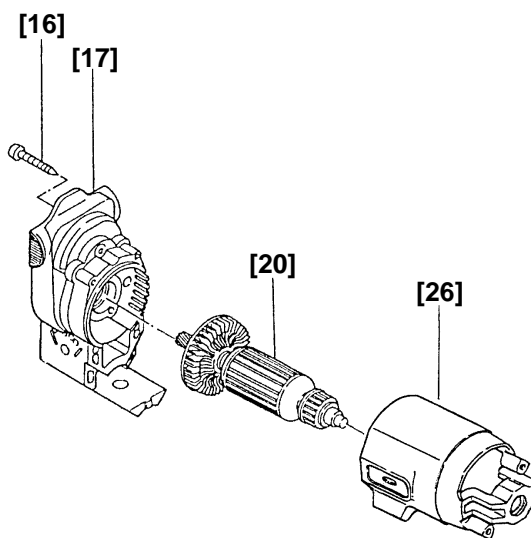

Fig. 9
(8) Disassembly of the Gear Cover [17] and the Housing [26] (Fig. 9)